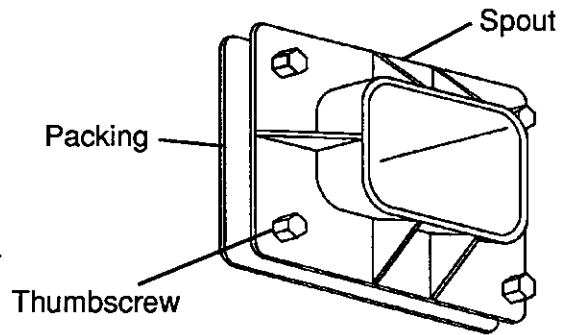

Fig. 20
- 5) Remove the thumbscrews, the Spout and the Packing. See Fig. 20.